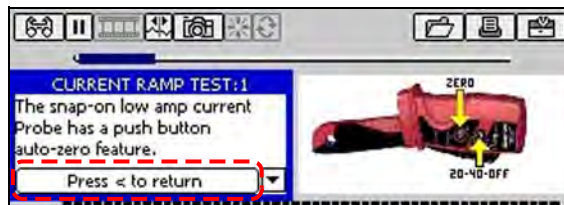

Figure 4-11 Sample jump bar return instruction
- When you are finished, follow the on-screen instructions in the jump bar to return to the original screen (Figure 4-11).